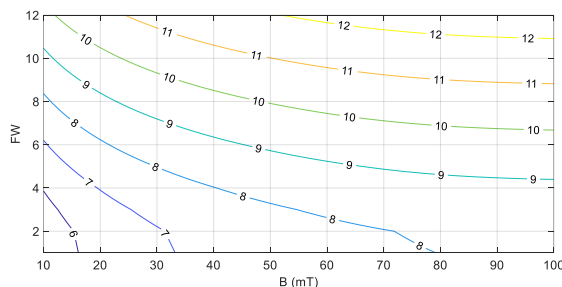

Figure 25: Resolution as a Function of the Magnetic Field and Window Size
The filter window (FW) determines the resolution (defined as the $\pm 3\sigma$ noise interval). Figure 25 shows the resolution for different window sizes (FW) and magnetic fields (B).